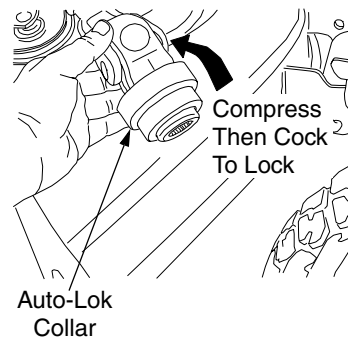

Figure 44
12. Compress the auto-lok collar of the deck drive shaft rearward, then cock to lock the collar in the released position (See Figure 44).